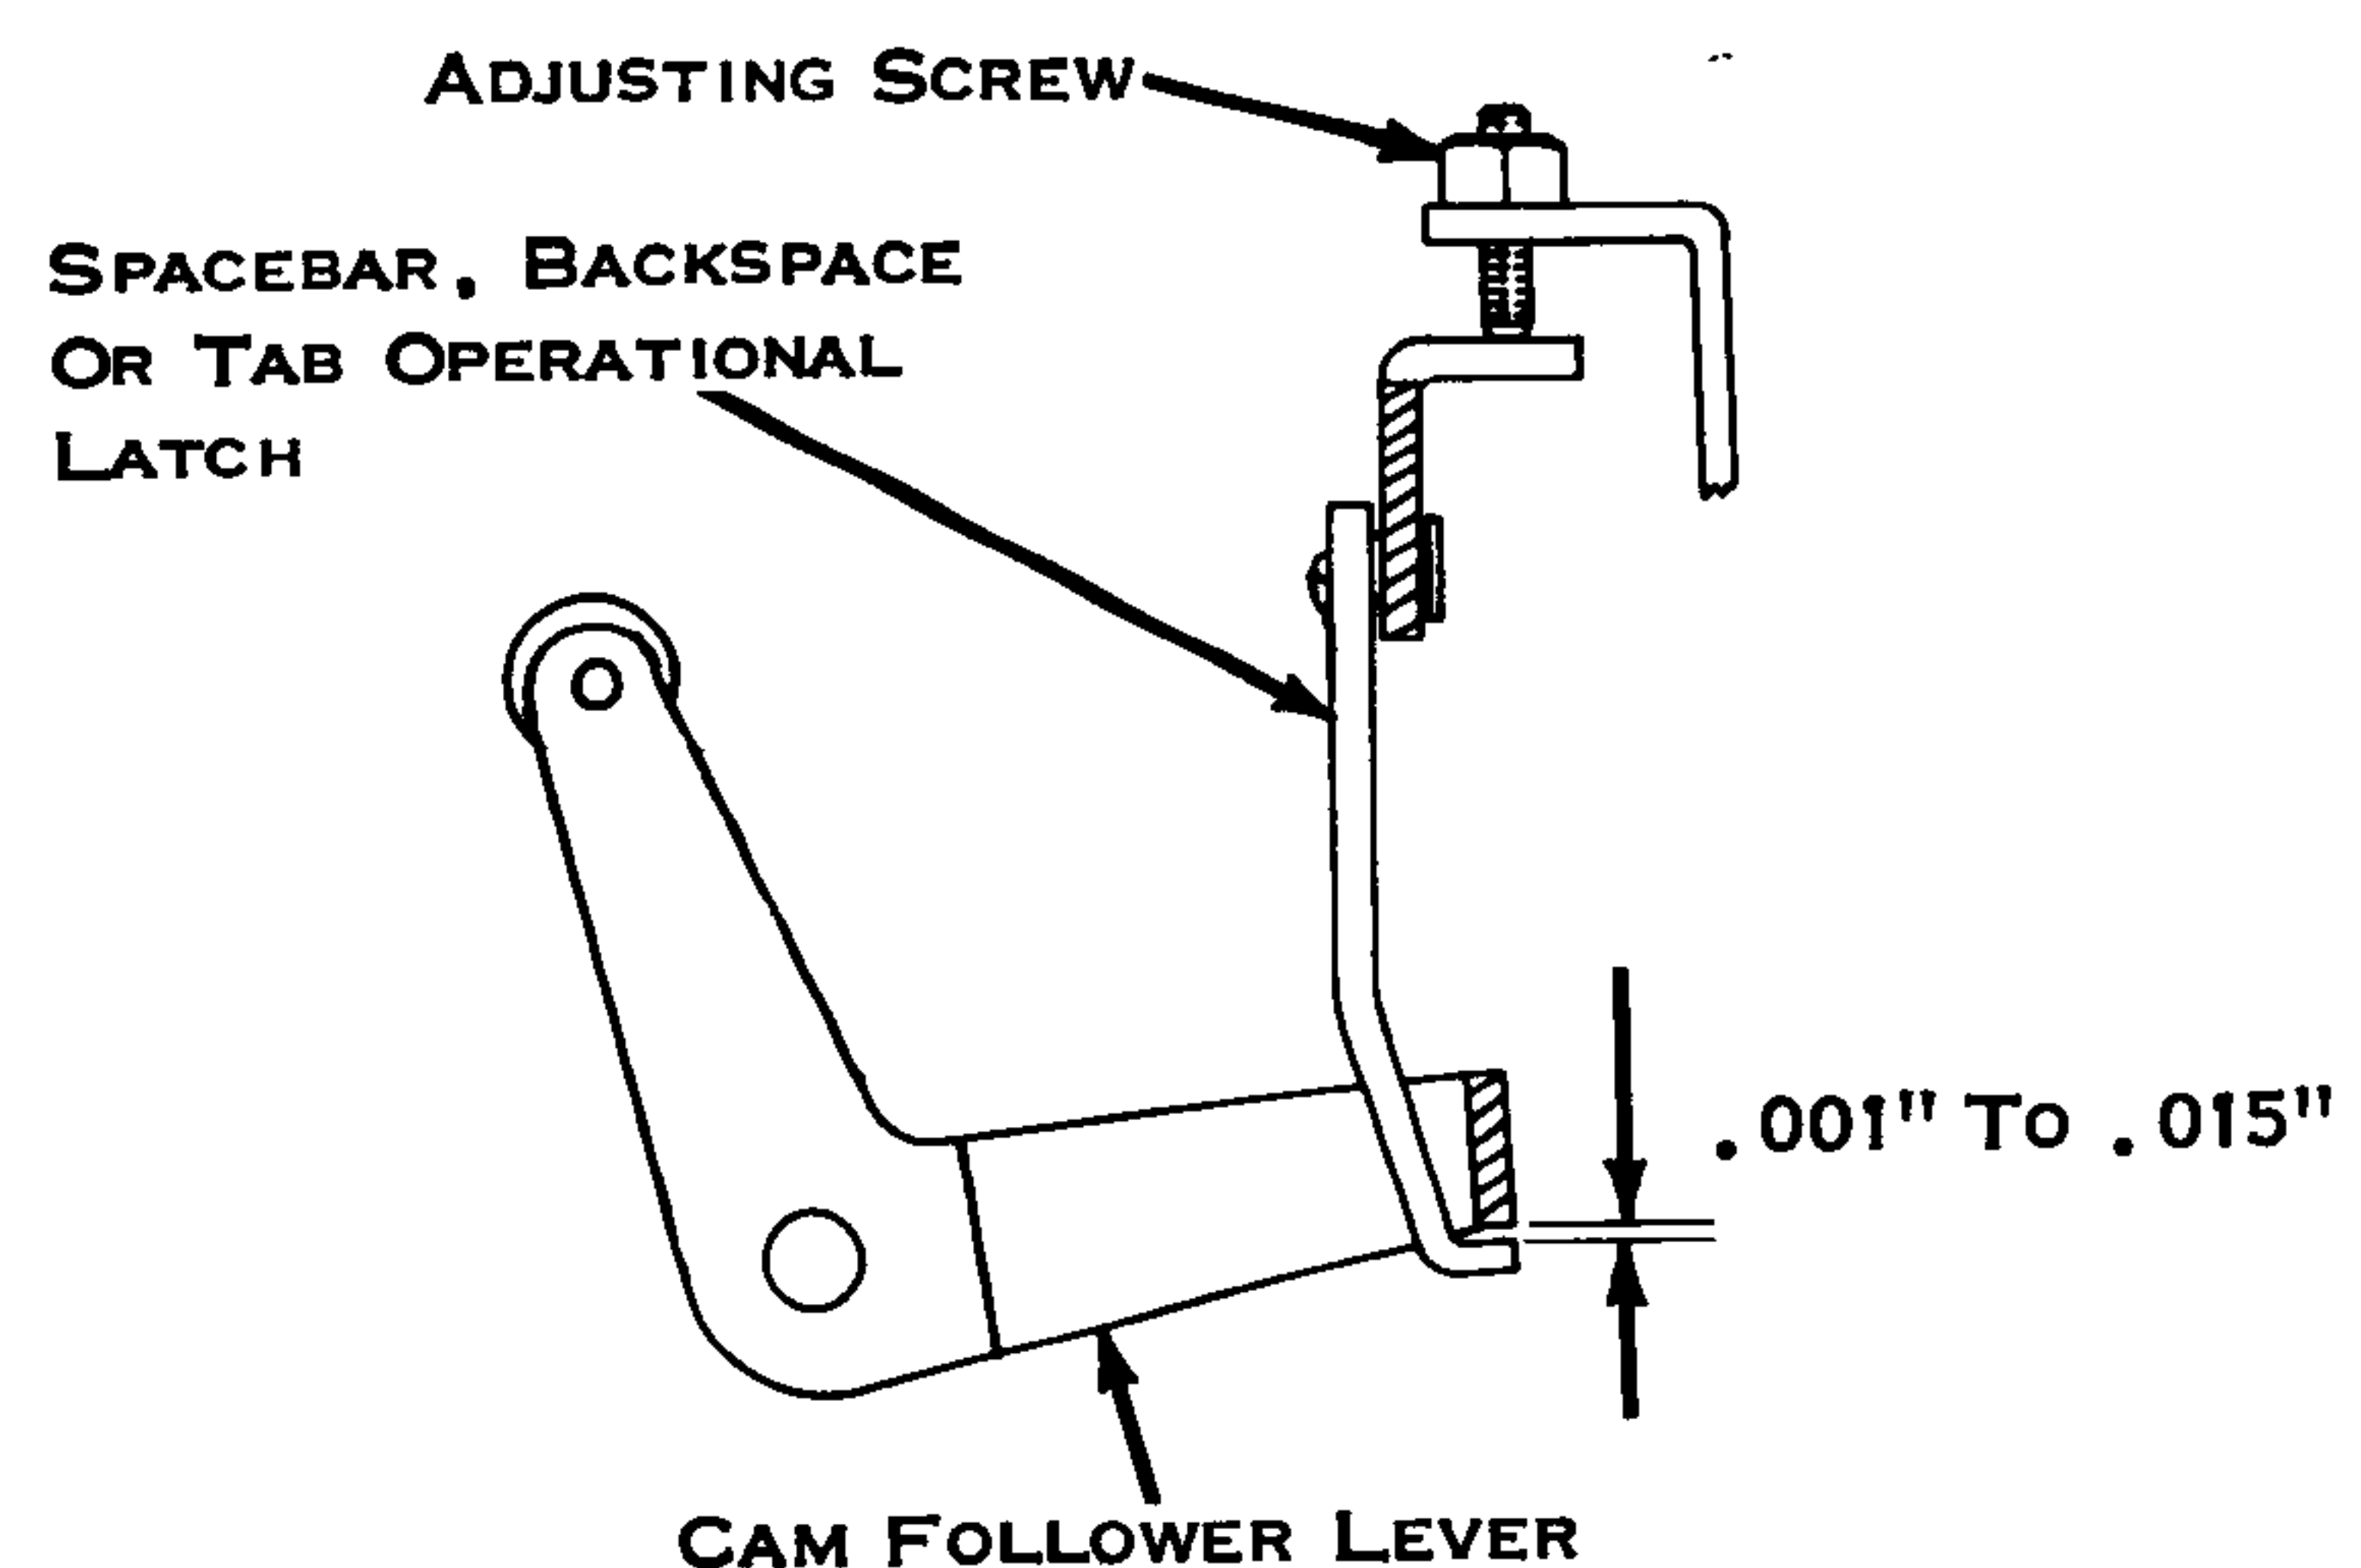
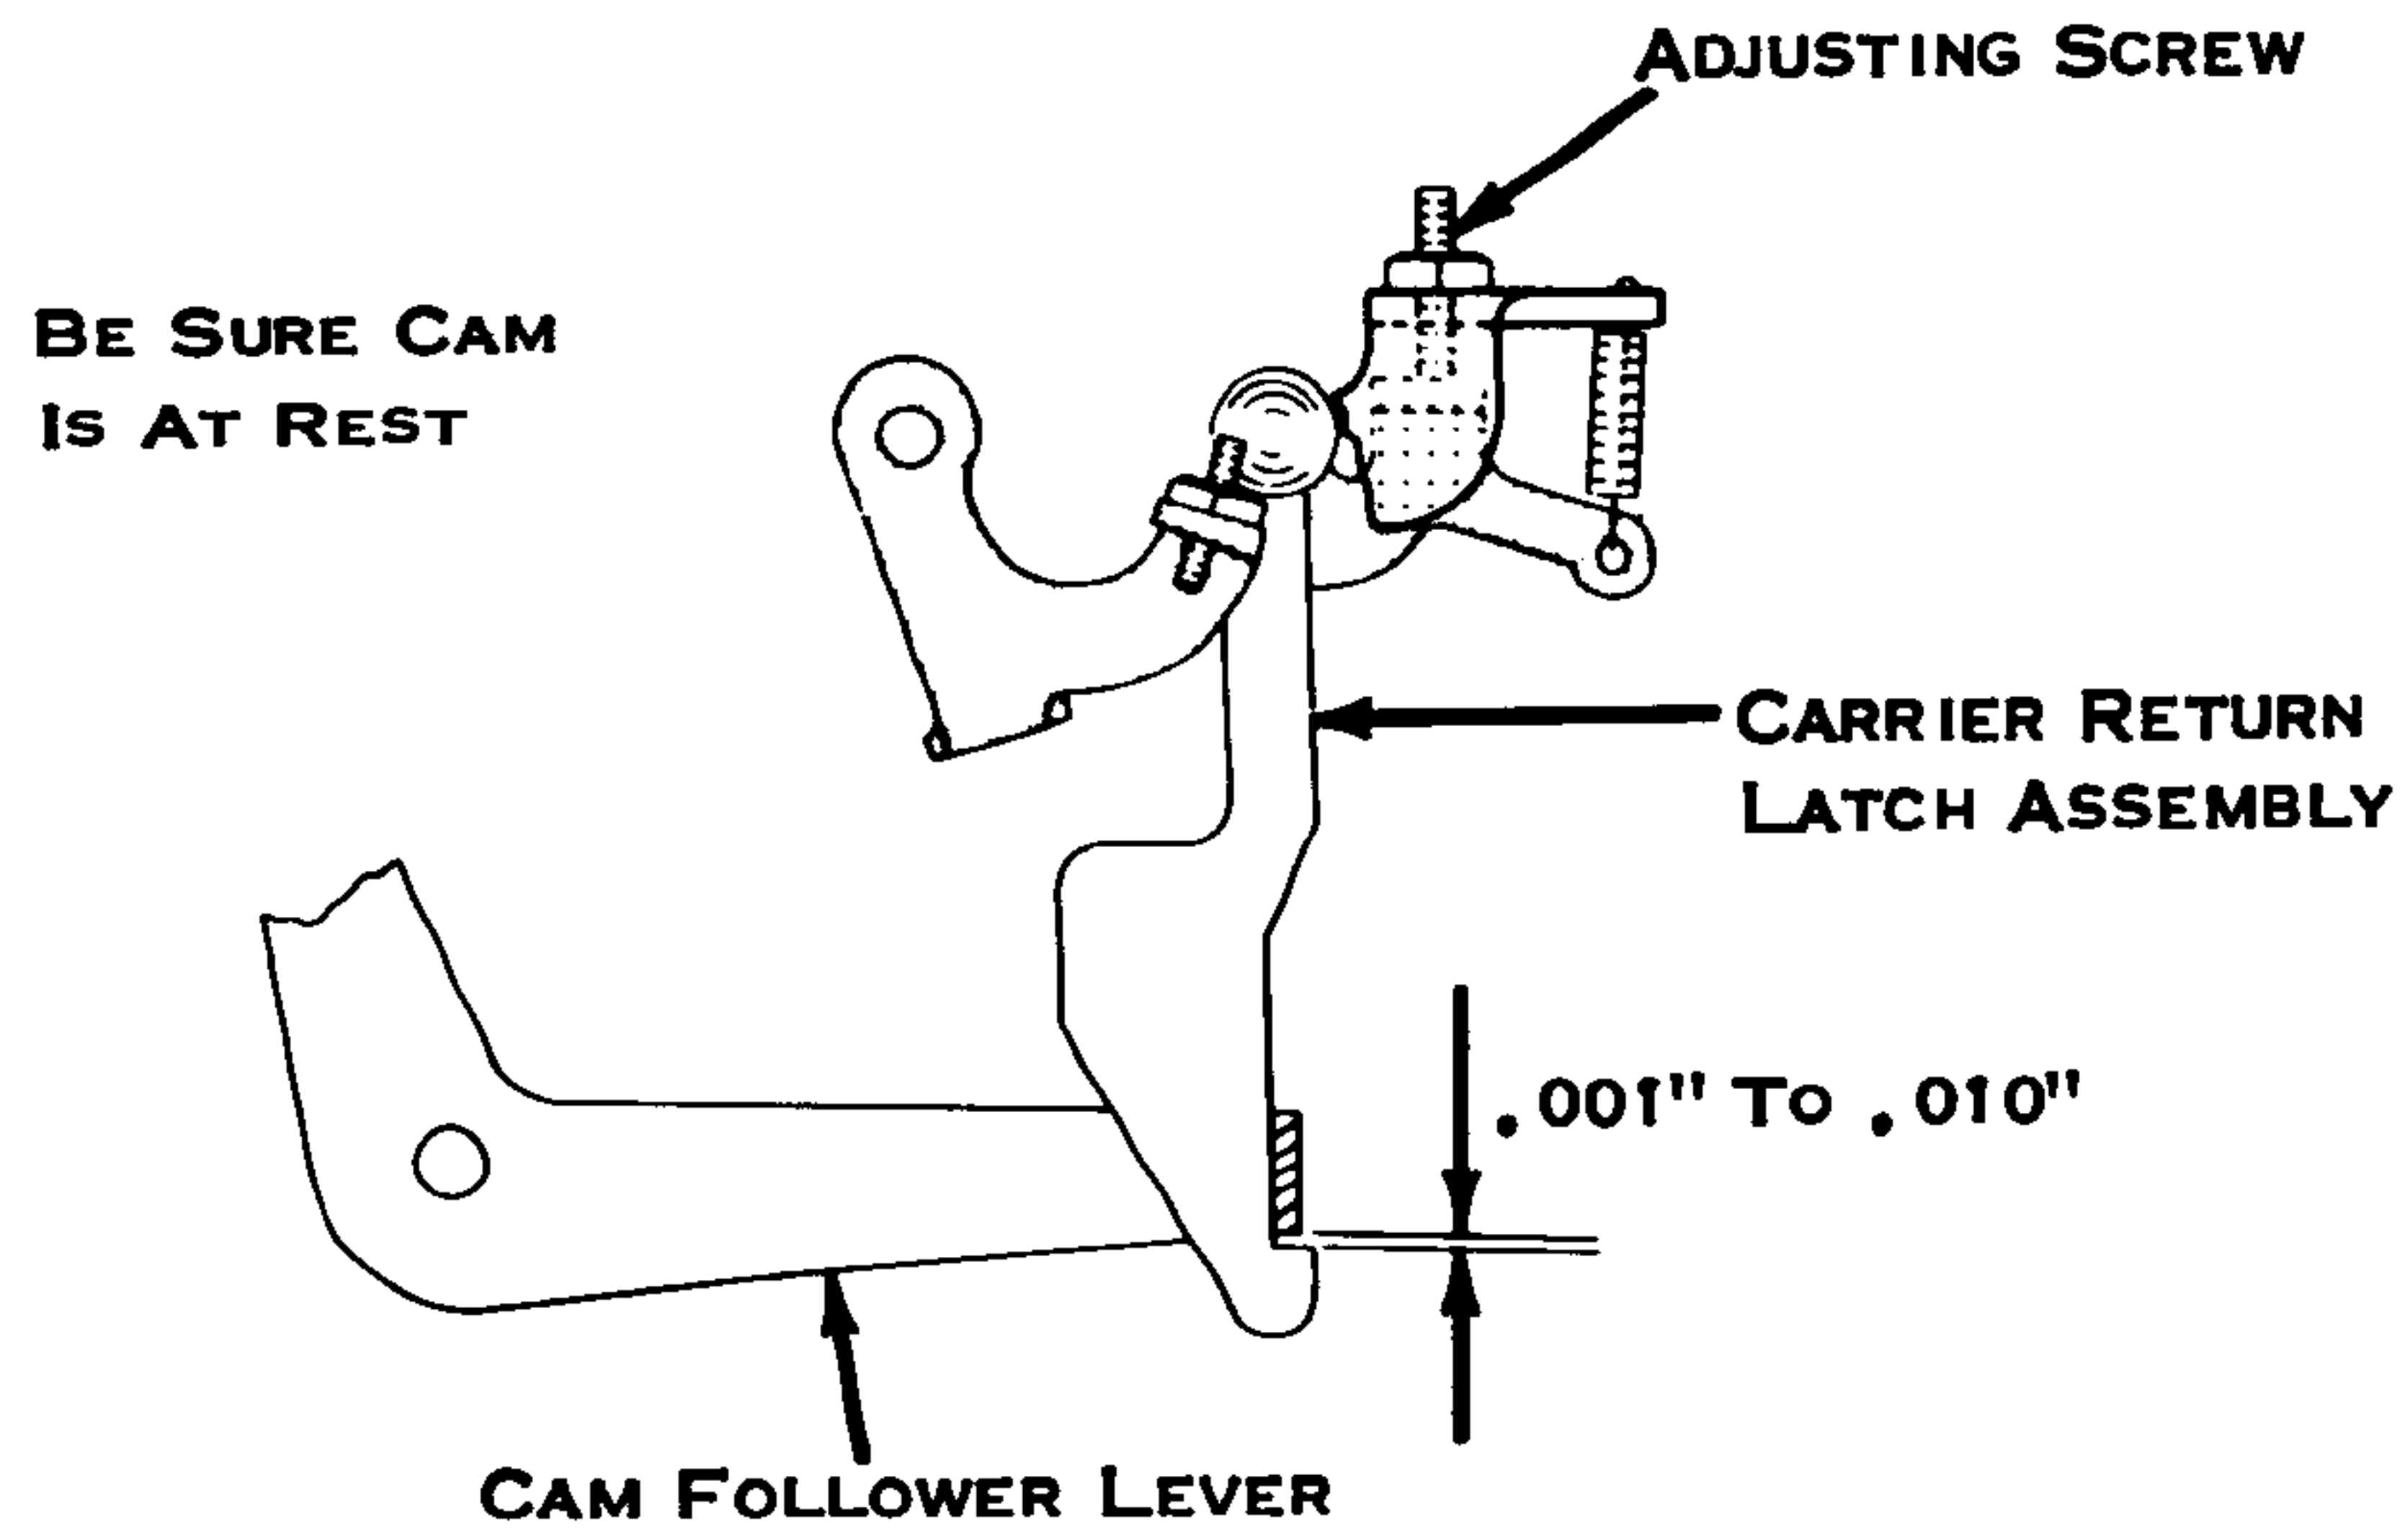

Figure 119. Latch Height
Figure 120. Latch Height
2. Operational Latch Height - The adjustable latch screws (eccentric stop on tab latch) for the backspace, spacebar, and tab operational latches should be adjusted so that the latches will pass under the cam follower lever with a clearance of .001" to .015" (Fig. 119). The carrier return operational latch adjustable stop should be adjusted so that the latch will pass under the cam follower with .001" to .010" clearance (Fig. 120). **NOTE:** Be sure that the cams are at rest when this clearance is observed. The high side of the specification is preferred.